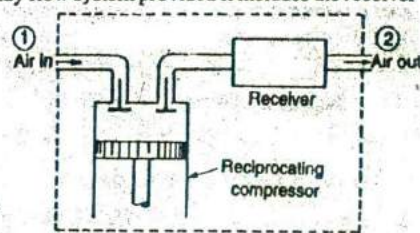

Fig. 3.35. Reciprocating compressor.
7. *Reciprocating compressor.* A reciprocating compressor, as shown in Fig. 3.35, is a device which compresses air and supplies the same at a considerable higher pressure and in small quantities. The reciprocating compressor is considered as a steady flow system provided it includes the receiver which reduces the fluctuation of flow considerably.